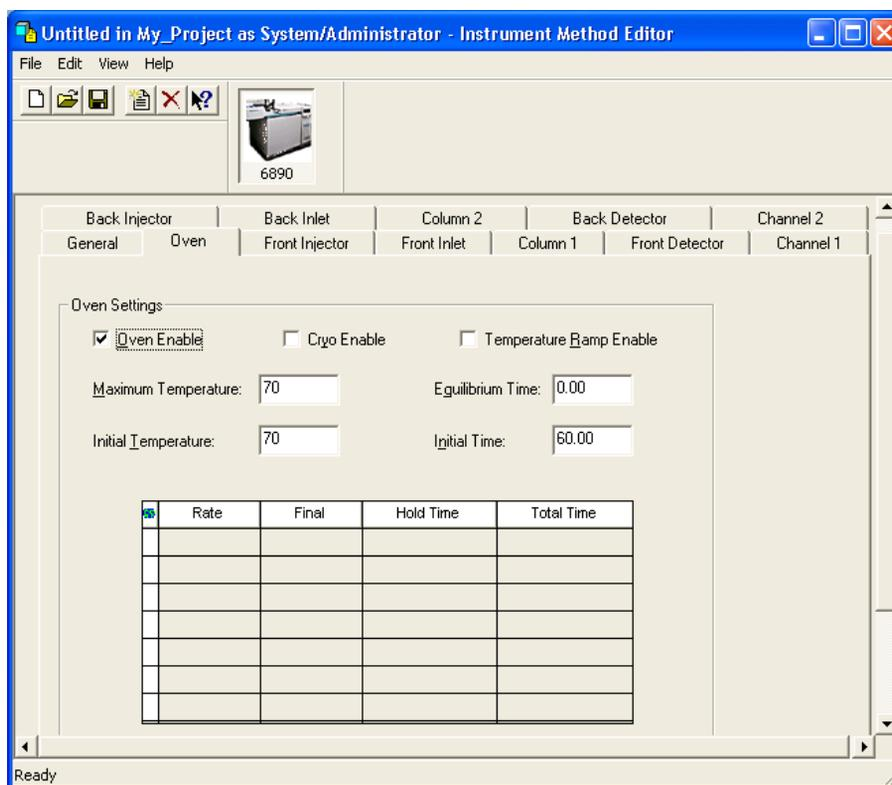

Figure 3-4 Instrument Method Editor, 6890, Oven Tab
2. Click the **Oven** tab (Figure 3-4). The Oven tab appears (Figure 3-4).